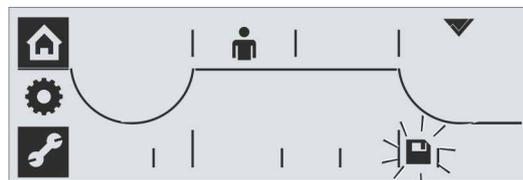

Fig. 9: Saving the end position is active
11. Select Save: Turn Drive Controller until Save symbol starts to blink, refer to fig. 9.